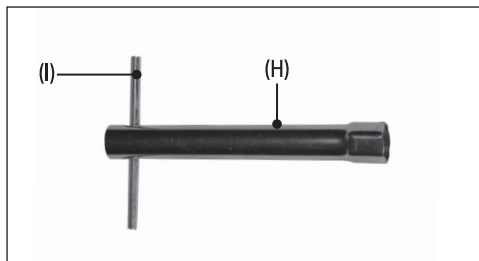

Fig. 20
2. Pass the spark plug spanner handle (I) through the holes in the spark plug spanner body (H) and use the assembled spanner to remove the spark plug (Fig. 20).